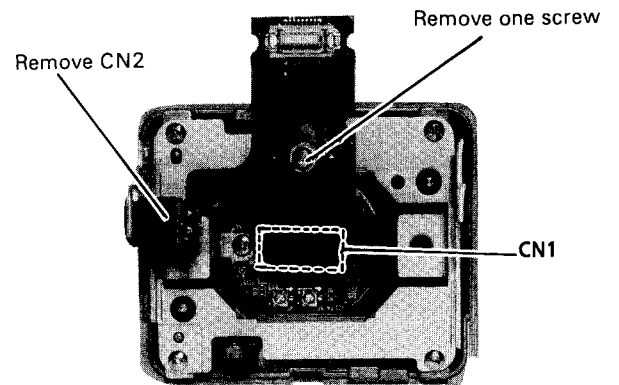

Fig. 3-2
- Referring to Fig. 3-2, remove one screw that secure the ALC Board and disconnect CN1 from the Sensor Board.
- Referring to Fig. 3-2, remove the ALC connector (CN2) from the Front Chassis and remove the ALC Board.